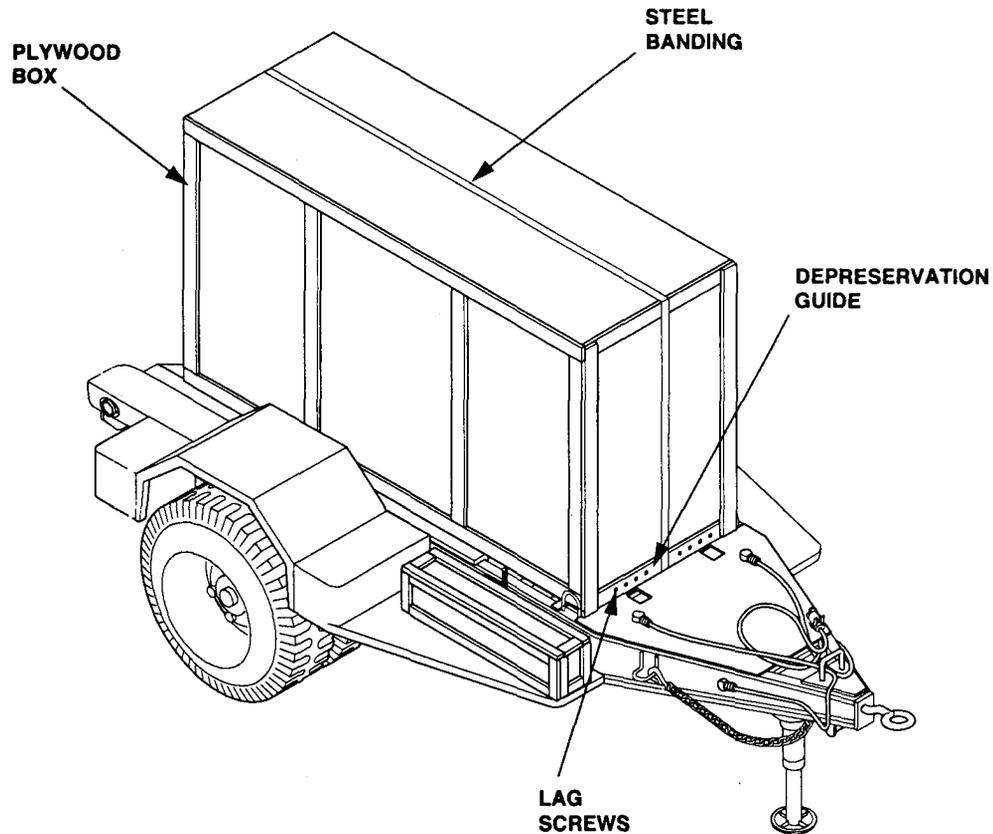
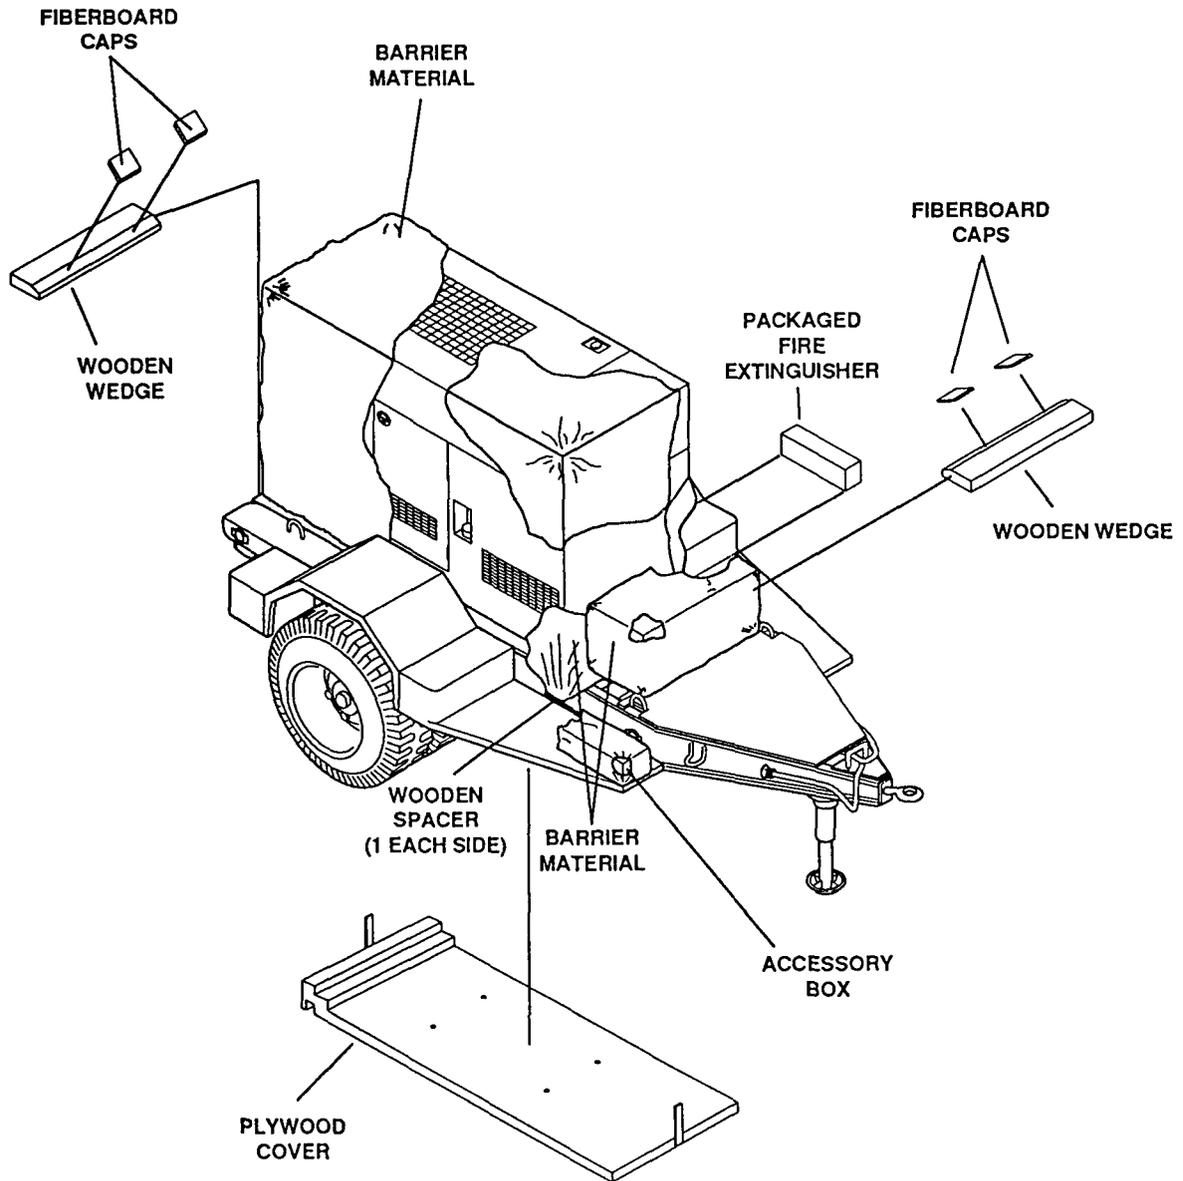

Figure 4-1. Power Unit Packed for Shipment.
Figure 4-2. Unpacking Power Unit.
4-4.1 Unpacking Power Unit. (Refer to figure 4-1 and figure 4-2.) The power unit is boxed prior to shipment. The PU-800, PU801, PU-801A, and PU-802 are identical with the exception of the electrical output frequency of the generator sets. Two PU-800 Power Units are modified to make up the AN/MJQ-39 power plant. Therefore, the unpacking procedures and figures 4-1 and 4-2 are typical for each configuration. Each generator set is packed in place on its respective trailer. Before beginning the unpacking procedure, locate and remove Depreservation Guide.
- d. Refer to figure 4-2 and remove wooden wedges, spacers, and fiberboard caps from around generator set skid bases.